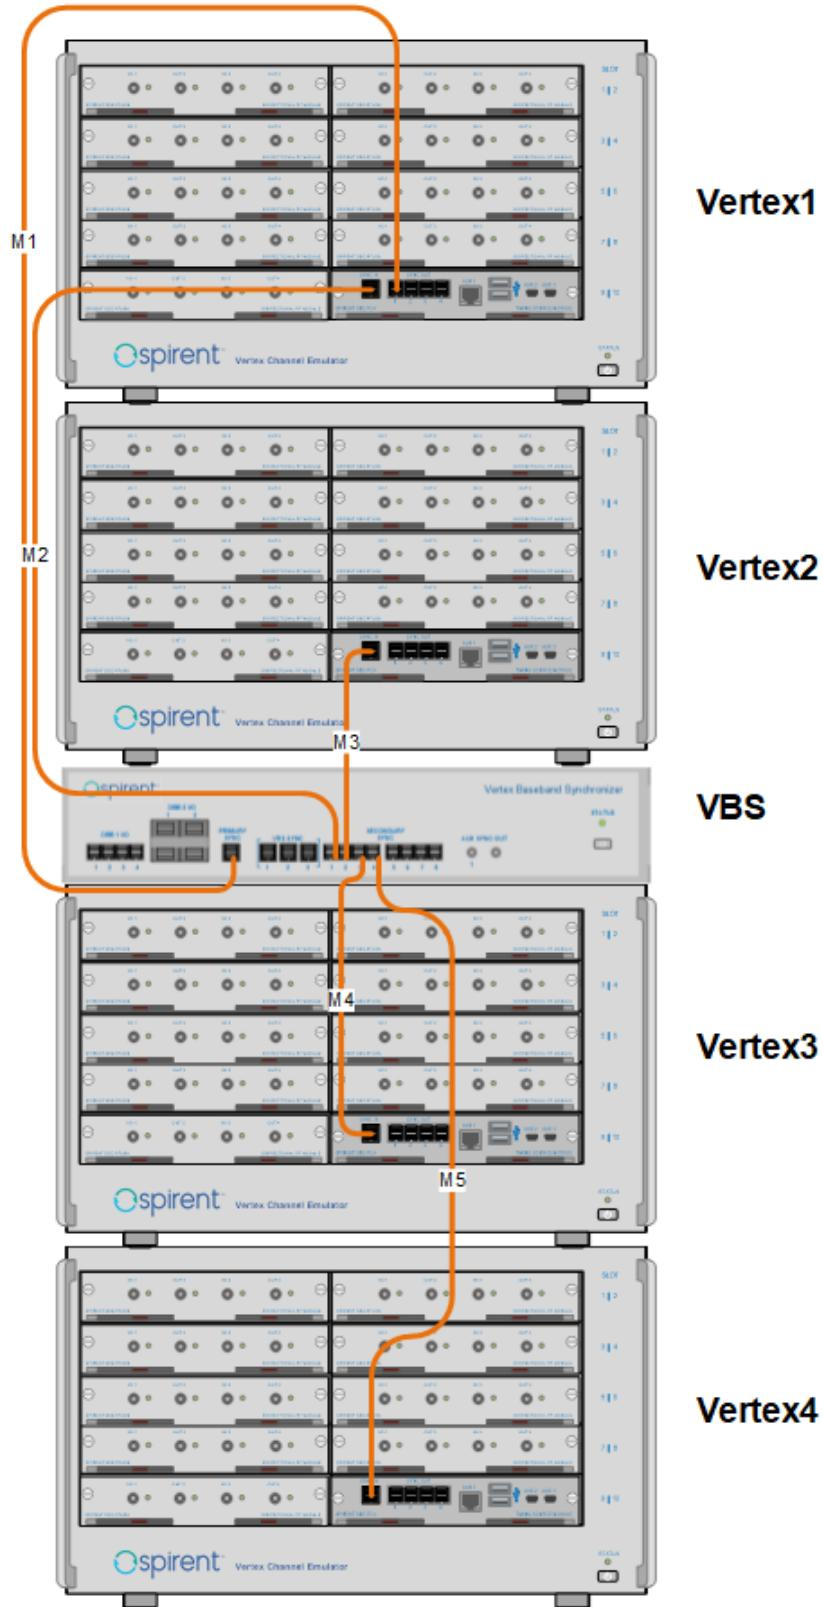

Figure 31. Quad-Vertex configuration - front panel.
1. On the front panel, connect a 1M mini SAS HD cable from the SYNC OUT1 port on Vertex1 to the PRI SYNC IN port on the Vertex Baseband Synchronizer. (See cable M1 in Figure 31.)
2. On the front panel, connect a 1M mini SAS HD cable from the SEC SYNC1 port on the Vertex Baseband Synchronizer to the DIV SYNC IN port on Vertex1. (See cable M2 in Figure 31.)
3. On the front panel, connect a 1M mini SAS HD cable from the SEC SYNC2 port on the Vertex Baseband Synchronizer to the DIV SYNC IN port on Vertex2. (See cable M3 in Figure 31.)
4. On the front panel, connect a 1M mini SAS HD cable from the SEC SYNC3 port on the Vertex Baseband Synchronizer to the DIV SYNC IN port on Vertex3. (See cable M4 in Figure 31.)
5. On the front panel, connect a 1M mini SAS HD cable from the SEC SYNC4 port on the Vertex Baseband Synchronizer to the DIV SYNC IN port on Vertex4. (See cable M5 in Figure 31.)